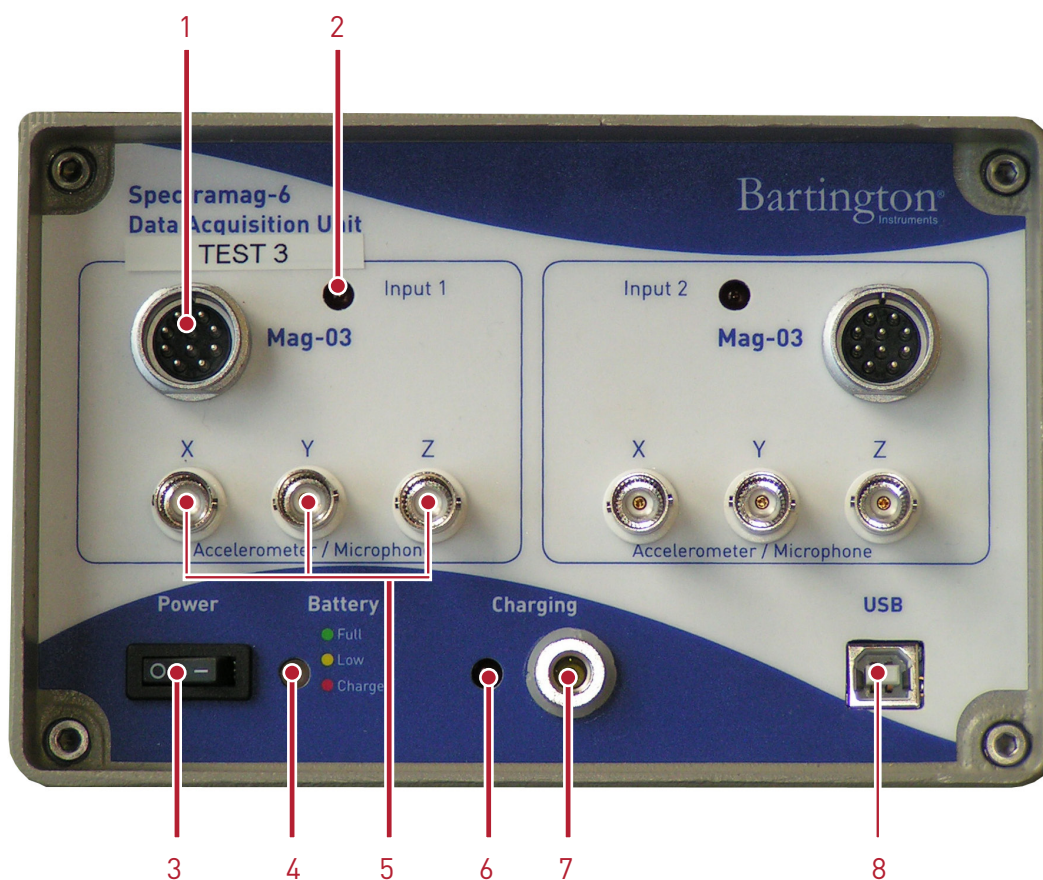

Figure 3: Spectramag-6 front panel.
**Key to Figure 3**
A power-on switch [3] is situated at the bottom left hand side of the front panel with a battery status indicator [4] (**Figure 3**). When the unit is switched ON, the battery status indicator shows green if the battery is fully charged; amber if the charge is low; and red if it is very low.
All the controls and connectors of the unit are on the front panel as shown in **Figure 3**. The input connectors for the sensors are arranged in two groups, each group having one Hirose magnetometer connector [1] and three BNC connectors [5] for accelerometers or microphones.
The BNC connectors (**Figure 3**) are labelled X, Y and Z to correspond to the allocated data channel. A front panel red indicator [2] is lit when power is applied to each group. A USB connector is situated at the bottom right hand side of the front panel for connecting to the PC [8].